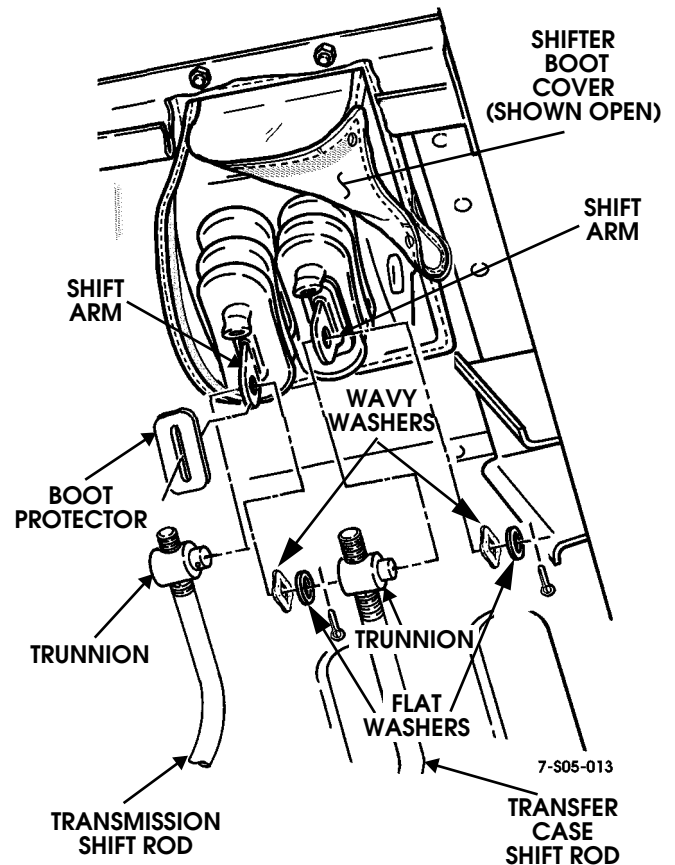

Figure 5-49: Shift Rod Connection (Illustration Shown with Shifter Boot Cover Opened)
NOTE: Wavy washers eliminate any potential transfer case shift linkage rattle (Figure 5-49). If a rattle is present on a vehicle not equipped with a wavy washer, install one as shown. Refer to parts manual for wavy washer part number.
2. Disconnect shift rod trunnions at housing shift arms (Figure 5-49).
9. Connect transmission and transfer case shift rods to shift arms in control housing (Figure 5-49).